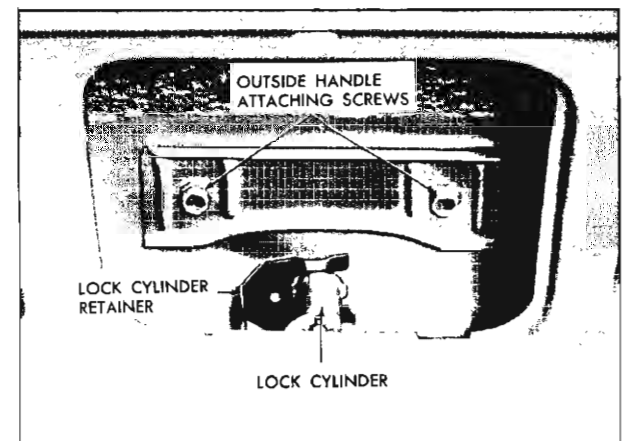

Fig. 14-16 Back Door Outside Handle and Lock Cylinder Attachments
2. Remove two screws securing outside handle (Fig. 14-16), and remove handle and gaskets.
3. To install back door outside handle, first cement handle gaskets to handle with weatherstrip adhesive (black) and apply a coat of adhesive to surface of gaskets which contacts door outer panel (Fig. 14-16) then, reverse removal procedure.
4. Remove screws securing outside handle (Fig. 14-16) and remove handle and gaskets.
2. Using a hooked tool or other suitable tool through access holes in door inner panel pry out lock cylinder retaining clip (Fig. 14-16) sufficiently to allow removal of lock cylinder and gasket from outer panel.